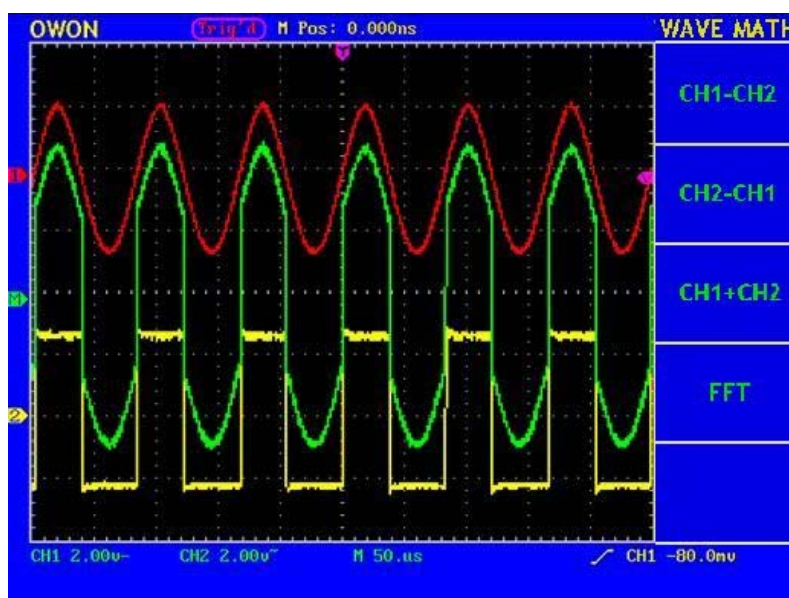

Fig.20 Wave Form resulted from CH1 +CH2 Mathematical Manipulation
2. Press the **F3** menu selection button and choose **CH1+CH2**. The green calculated wave form M is displayed in the screen; press the **F3** menu selection button again, the wave form M is closed off (see Fig.20).